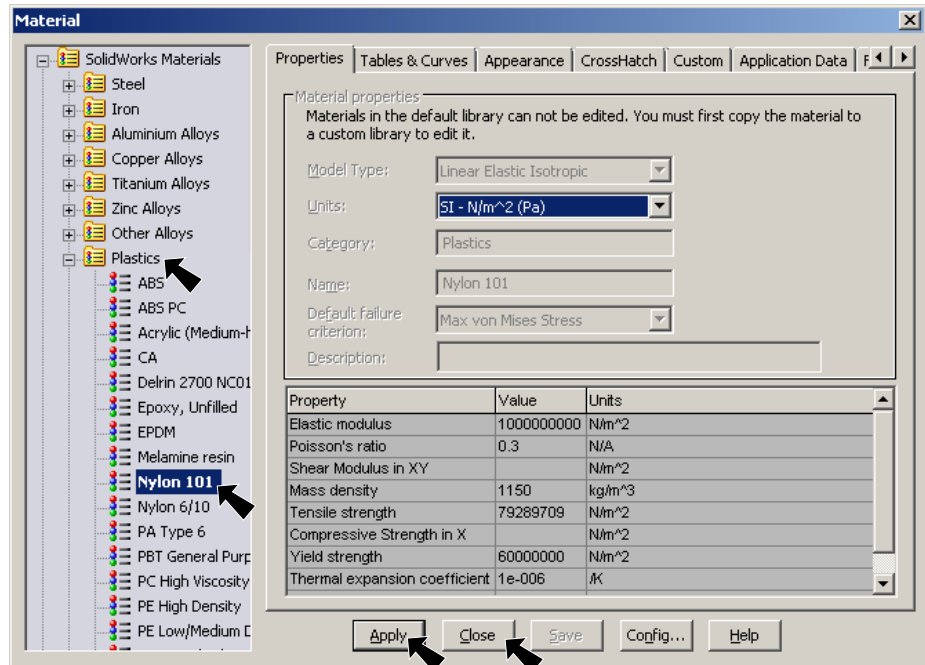

Fig. 10
Step 2. **Expand Plastics** in the material tree and select **Nylon 101**, **Fig. 10**. Click **Apply** and **Close**.